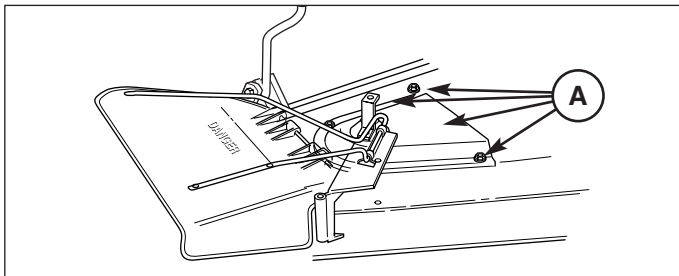

Figure 2. Install Discharge Baffle
1. Remove the bolts (A, Figure 2) securing the RH arbor cover, then remove the cover from the deck. Discard the cover and bolts (A).